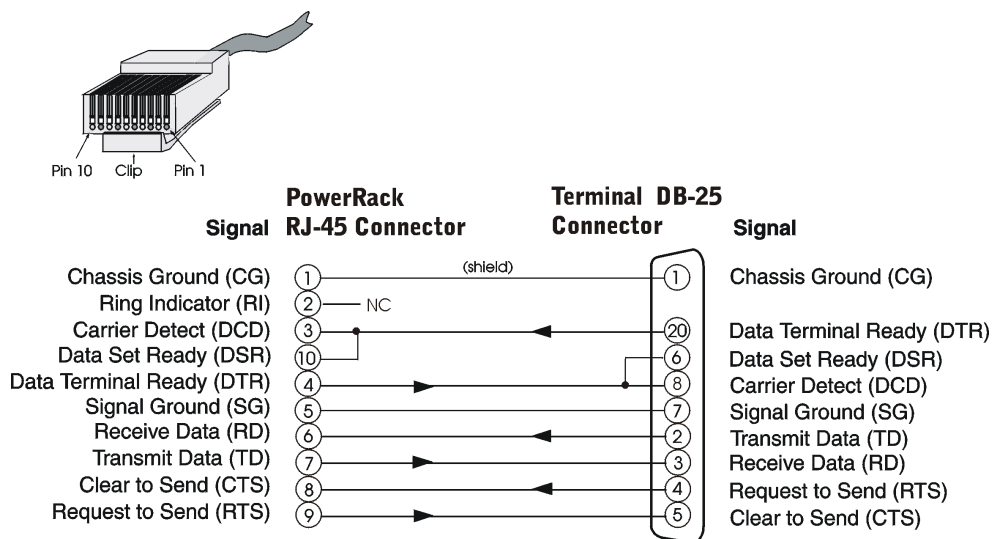

Figure 3-3: Cable Pin-out for Terminals & DTE Devices
The standard cable shown Figure 3-3 supports a device that could use RTS/CTS flow control. If your device uses different signals for hardware flow control, adjust your cable accordingly. If you are using XON/XOFF flow control, you may be able to omit RTS/CTS entirely.
1. This pin-out is functionally similar to the standard DTE cables shown in Figure 3-3, adjusted for the fact that the DB9 connector uses different pin-outs.